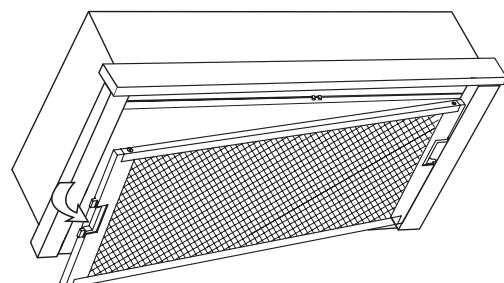

Fig 2.
3. Pull filter downwards to remove. Repeat 2 & 3 for models with a second filter. Fig 2.